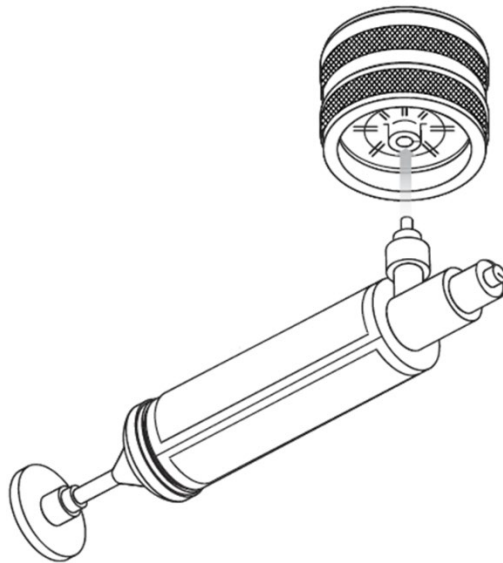

Figure 9: Vacuum Syringe Assembly
s. Use the vacuum syringe to remove any fuel remaining inside of the monitor by connecting the syringe to the outlet (“spoke” side) of the monitor and pumping two to three times and pointing the outlet of the syringe into a waste container (Figure 9).